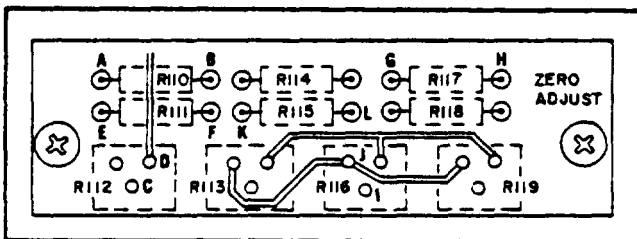

Figure 5-10. "ZERO ADJUST" Section of Main circuit Board
- Connect decade resistance box between pads of position marked for resistor R110 in "ZERO ADJUST" section of main circuit board (points "A" and "B" in Figure 5-10; also see Figure 7-10).
- Solder jumper between "wiper" pad and "+12.4V" pad of position marked for potentiometer R112 in "ZERO ADJUST" section of main circuit board (points "C" and "D" in Figure 5-10; also see Figure 7-10).
- Connect decade resistance box between pads marked for resistor R111 in "ZERO ADJUST" section of main circuit board (points "E" and "F" in Figure 5-10; also see Figure 7-10).
- Connect decade resistance box between pads of position marked for resistor R117 in "ZERO ADJUST" section of main circuit board (points "G" and "H" in Figure 5-10; also see Figure 7-10).
- Solder jumper between "wiper" pad and "-6.2V" pad of position marked for potentiometer R116 in "ZERO ADJUST" section of main circuit board (points "I" and "J" in Figure 5-10; also see Figure 7-10).